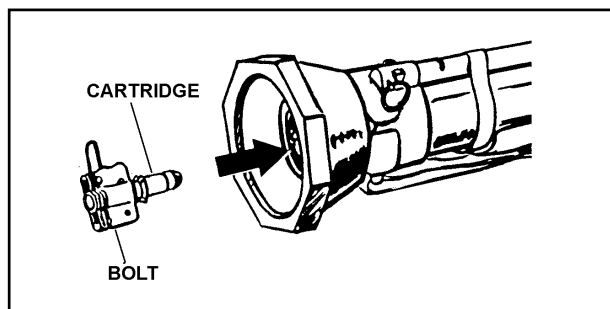

Figure B-9. Inserting bolt with cartridge into the breech of the M287 tracer trainer.
(1) The firer performs the function check and places the M287 tracer trainer on his shoulder.
(2) The trainer looks through the barrel from the rear to verify that it contains no obstructions. He inspects the cartridge primer to ensure it is not dented, inserts the bolt into the breech (Figure B-9), and presses in and turns the bolt clockwise to the "S" to